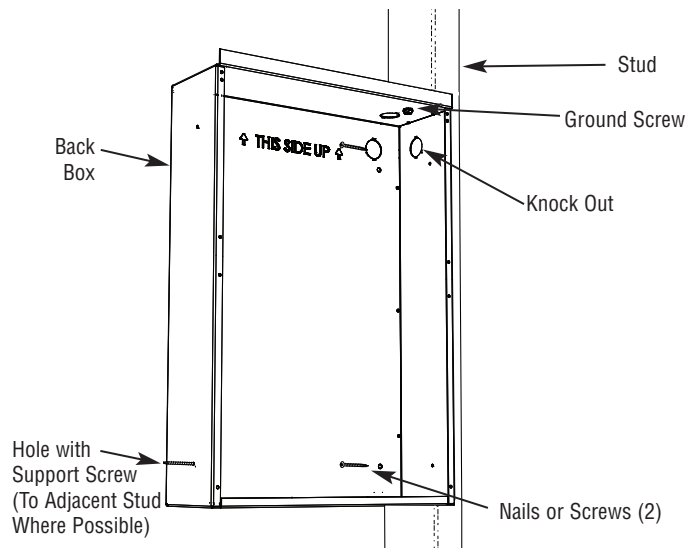

Figure 2 - Attaching Backbox to Stud
- In new construction without the finished wall in place, position the back box against the side of stud allowing the side to extend beyond the stud so it will be flush with the finished wall surface. (You must know the thickness of the finished wall when installing) Secure the box to the stud using two screws (not included) as shown in Figure 2.
- When possible, install an additional long screw (such as a 3" wood screw) through the lower side mounting hole into the nearest stud (see Figure 2). Use care and do not over-tighten the screw as this will deform the backbox and make installation of the heater assembly difficult or impossible. Screw should only be tightened enough to keep screw in place.
- Drill a small hole in back box flush with the inside surface of the finished wall and install a screw (length not critical, but should be at least 1 inch) see Figure 2.
- Locate a stud and carefully mark and cut a hole measuring 12-1/2" (318 mm) wide by 17-3/4" (451 mm) high so one side of hole is along the edge of a stud – see Figure 2.
- Fit back box into opening aligning sides of box flush with finished wall surface and secure box to stud using two screws (not included) as shown in Figure 2.
- Insert one #8, three inch long wood screw (not provided) through the free side of the back box not mounted to the stud and secure in the lower mounting hole. This will prevent the back box from pull out on the unsupported side when installing the heater assembly. Be careful not to drive the wood screw more than 3/8" into the stud. Too much would cause the back box to pull out of alignment. See Figure 2.